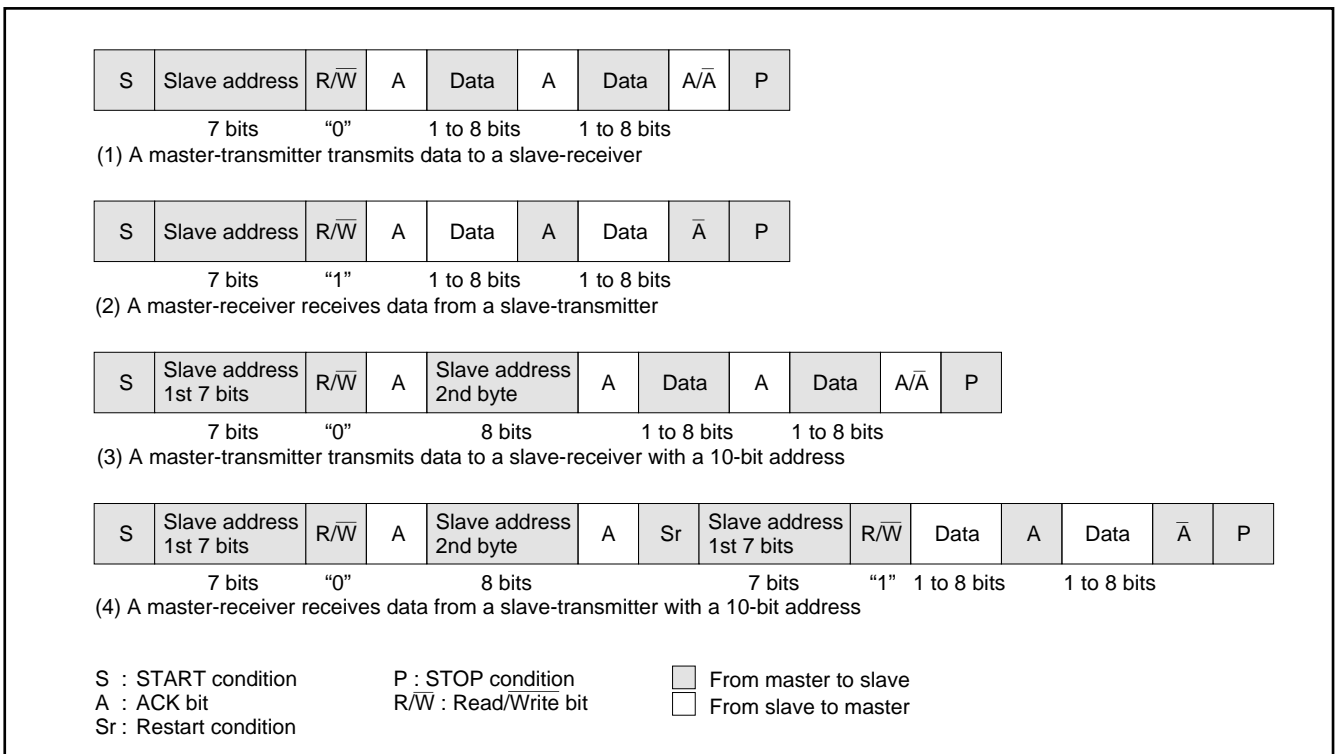

Fig. 22. Address data communication format
① 7-bit addressing format
To meet the 7-bit addressing format, set the 10BIT SAD bit of the I²C control register (address 00DA16) to "0." The first 7-bit address data transmitted from the master is compared with the high-order 7-bit slave address stored in the I²C address register (address 00D816). At the time of this comparison, address comparison of the RBW bit of the I²C address register (address 00D816) is not made. For the data transmission format when the 7-bit addressing format is selected, refer to Figure 22, (1) and (2).
② 10-bit addressing format
When the first-byte address data matches the slave address, the AAS bit of the I²C status register (address 00D9₁₆) is set to "1." After the second-byte address data is stored into the I²C data shift register (address 00D7₁₆), make an address comparison between the second-byte data and the slave address by software. When the address data of the 2nd byte matches the slave address, set the RBW bit of the I²C address register (address 00D8₁₆) to "1" by software. This processing can match the 7-bit slave address and R \bar{W} data, which are received after a RESTART condition is detected, with the value of the I²C address register (address 00D8₁₆). For the data transmission format when the 10-bit addressing format is selected, refer to Figure 22, (3) and (4).
(10) Example of Master Transmission